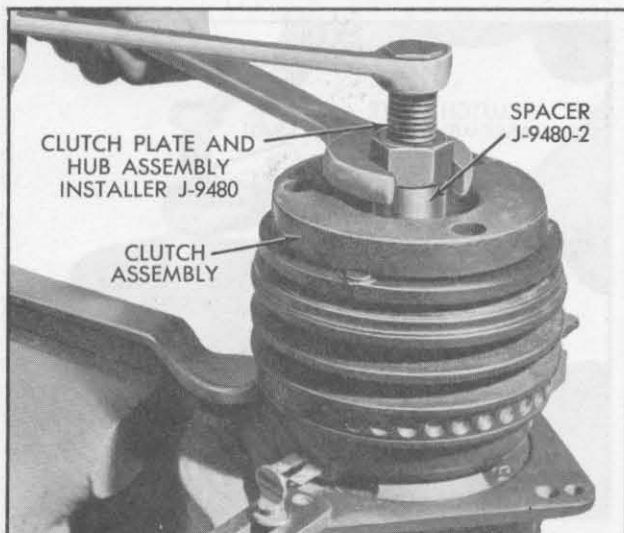

Fig. 1-59 Installing Clutch Plate and Hub Assembly
5. Hold hex portion of tool body with a wrench and tighten center screw several turns to press hub partially on shaft, Fig. 1-59.